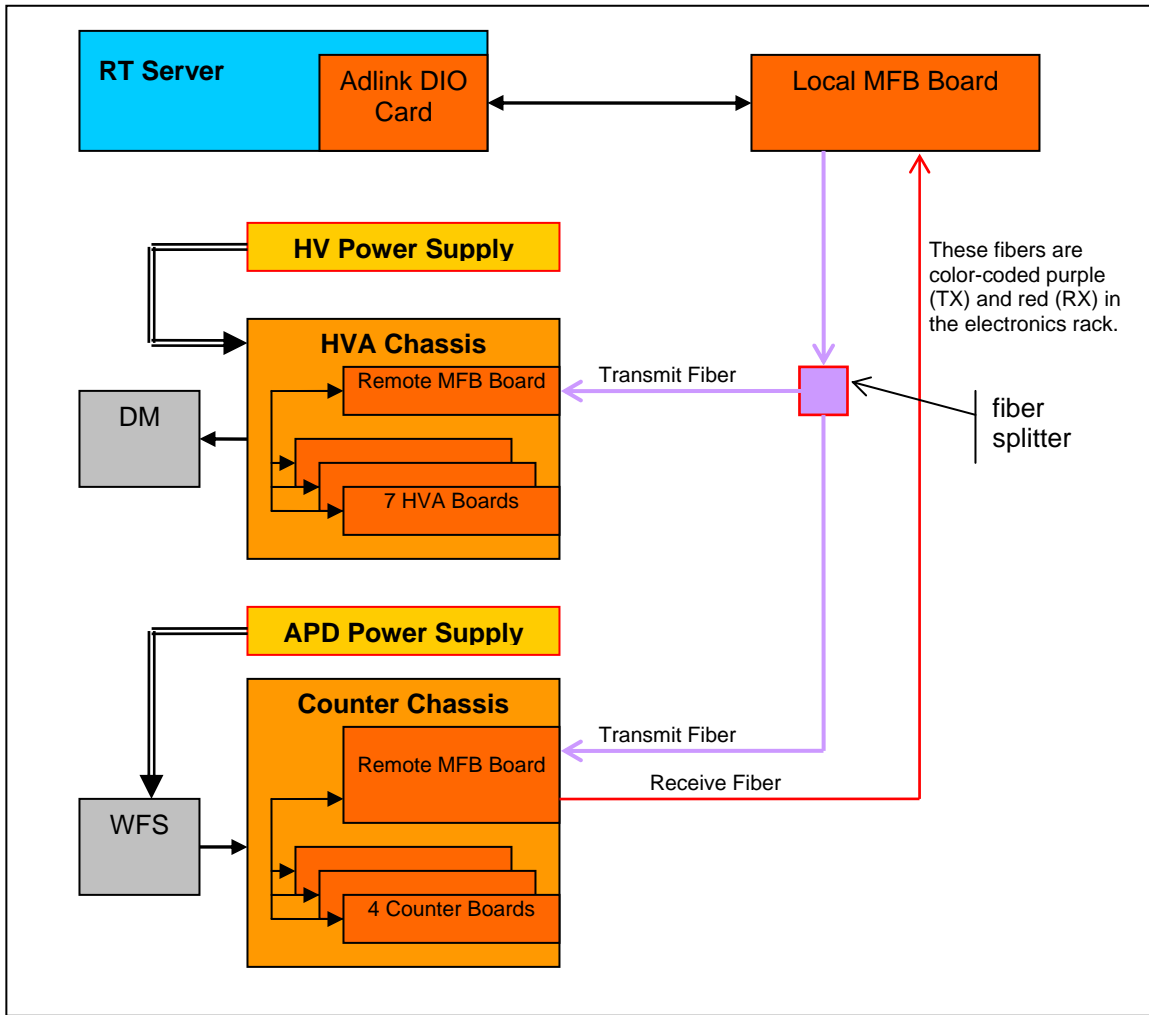

Figure 4 Block Diagram of NICI High Voltage and Counter Electronics Components
There are 3 major subsystems in NICI's electronics, the Servers, Counter Electronics, and High Voltage Electronics. There are also several other components, the Steering Mirror Controller, the Ethernet Switch, the Portserver, and the Remote Power Control modules. See Figure 4 for a graphical depiction of the electronics components.
The RT server, HVA, and Counter electronics work in concert at the core of NICI's processing and correcting functions. Figure 4 provides a block diagram of the RT Server, HVA Electronics, and Counter Electronics. The User Interface (UI) Server provides the interface to the NICI user and controls the mechanisms.